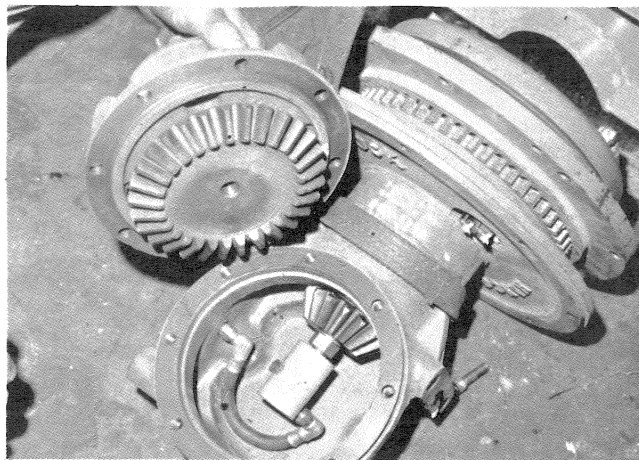

Figure 18. Rotocoupling installed
- (17) Remove Rotocoupling flexible air hose and fittings. Remove Rotocoupling. If gear box is to be serviced, see detailed procedure in 'GEAR-BOX' section of this manual (Fig. 18).